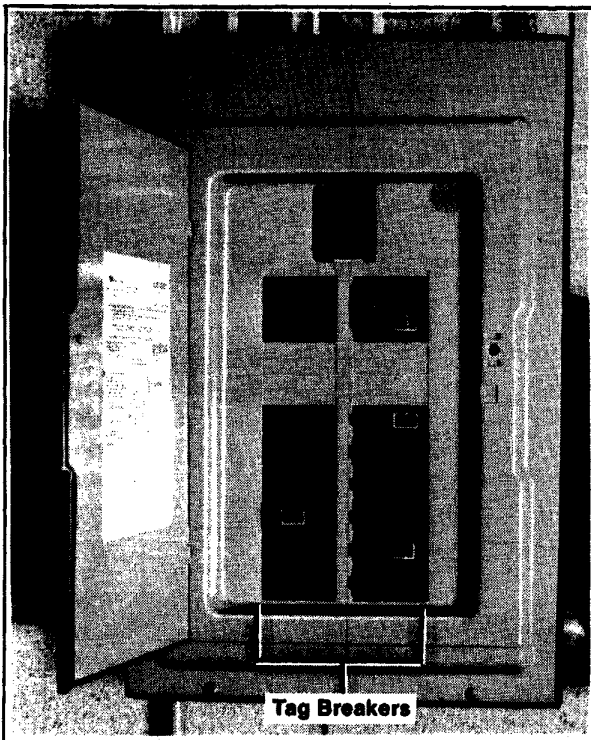

Figure 1-2. Main Breaker Panel
1. Trip circuit breakers at your main breaker panel or any sub-panels, to shut "off" areas in the house where need for electricity is not critical (have your electrician tag each breaker to describe the household circuit area protected). See Figure 1-2. It will still be necessary to calculate the wattage demand created by the lights and appliances which you may be operating simultaneously. See "Wattage Requirements."